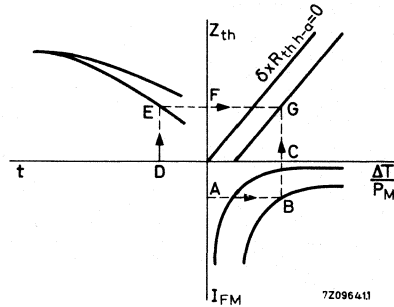

Fig. 1
Fig. 1 is used to illustrate how the graph on page 6 should be used.
1. Starting at a point A in Fig. 1 on the I_{FM} axis trace horizontally until the appropriate $\Delta T/P_M$ curve is reached at point B.